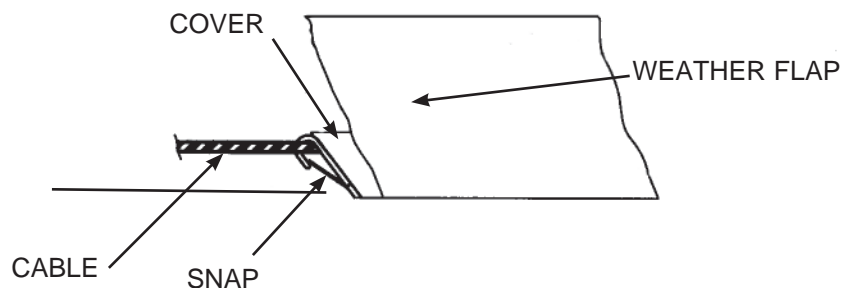

FIG. 11E
3) Attach the snaps located under pool cover in cable area onto cable. See FIG. 11E.